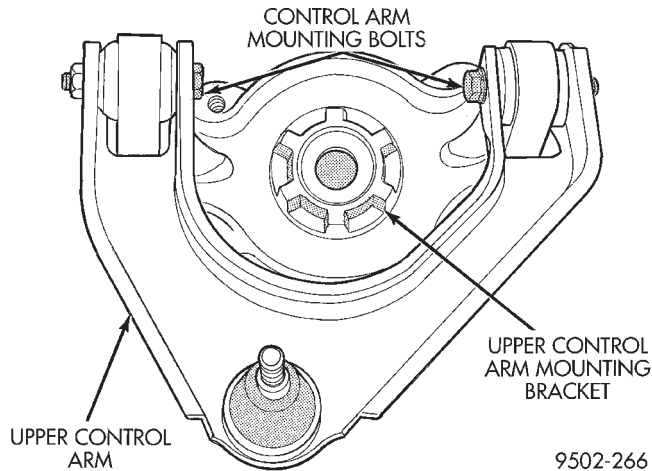

Fig. 24 Upper Control Arm To Mounting Bracket Attachment
(18) Remove the 2 bolts (Fig. 24) attaching the upper control arm to the bushings in the upper control arm mounting bracket.
(19) Remove the upper control arm from the mounting bracket.
NOTE: Bolts **MUST** be installed so the head of the bolt will be toward the coil spring when the mounting bracket is installed on the shock absorber mounting bracket (Fig. 24).
(2) Install and securely tighten the 2 bolts attaching the upper control arm to the bushings in the mounting bracket (Fig. 24). Tighten the attaching bolts to a torque of 95 N·m (70 ft. lbs.).